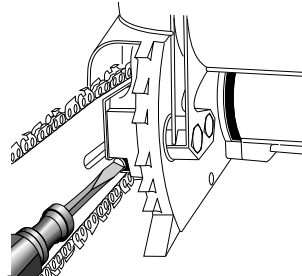
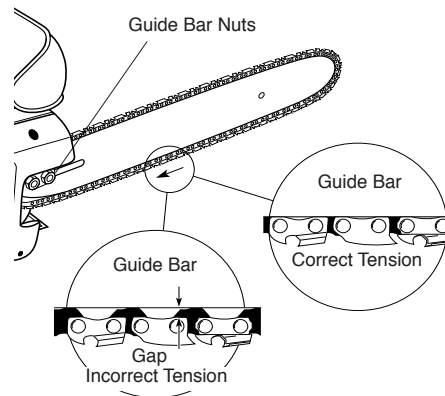

Figure 4 - Turning Adjusting Screw
Figure 5 - Saw Chain Adjustment
2. Turn adjusting screw clockwise until all slack is out of chain (see Figure 4). **Note:** There should be no gap between side links of chain and bottom of guide bar (see Figure 5).